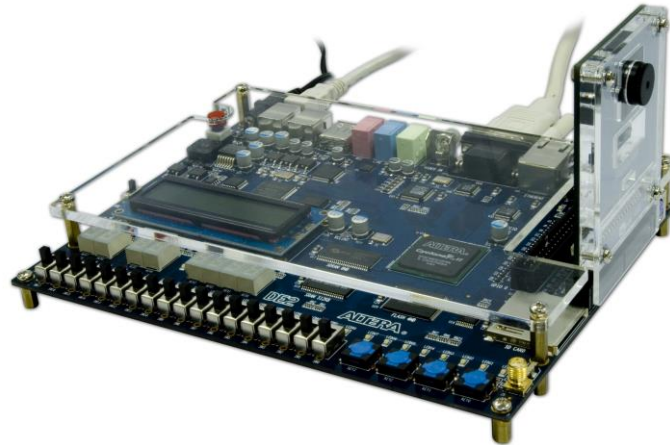

Figure 1-5 Connect the D5M to DE2 board's expansion port (outermost port).
4. Connect the D5M to your DE2 board as shown in **Figure 1-5**.